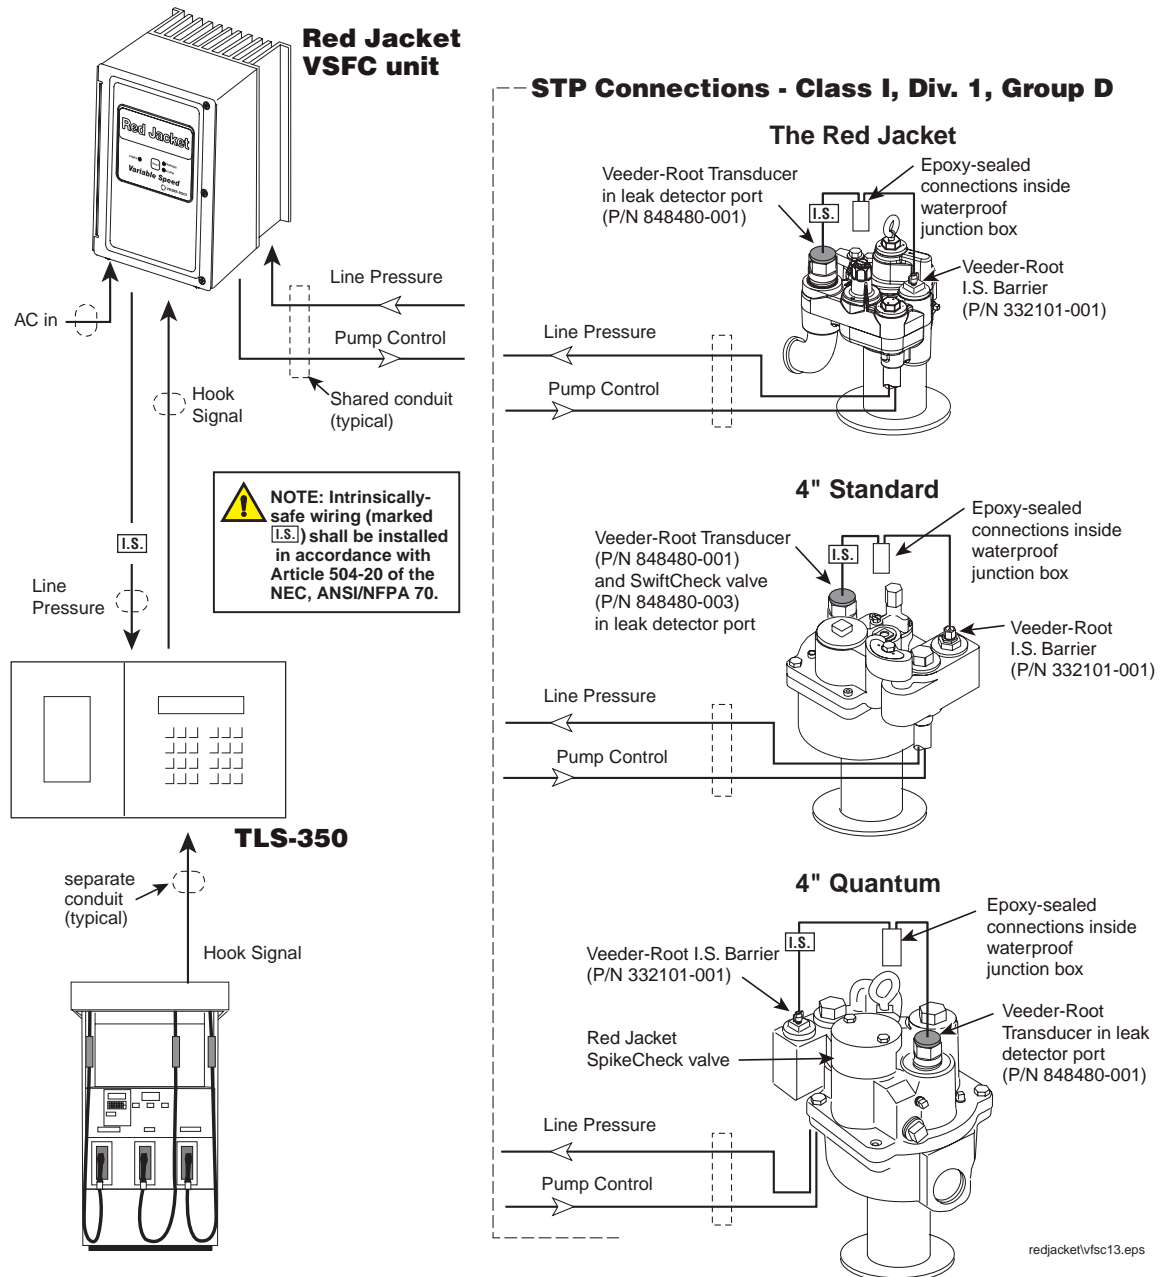

Figure 8. VSFC/TLS-350 installation examples with shared conduit for pump control and pressure signals
- Figure 8 illustrates RJ pump connections needed for VSFC/TLS-350 installations with shared conduit for pressure and pump control wiring.